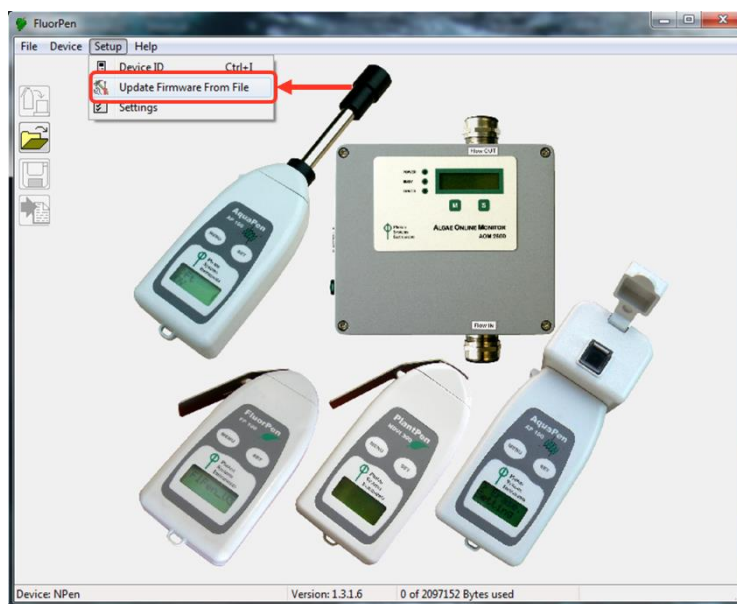

Fig. 17 Update Firmware.
- Select: **Setup > Update Firmware From File** (Fig. 17).